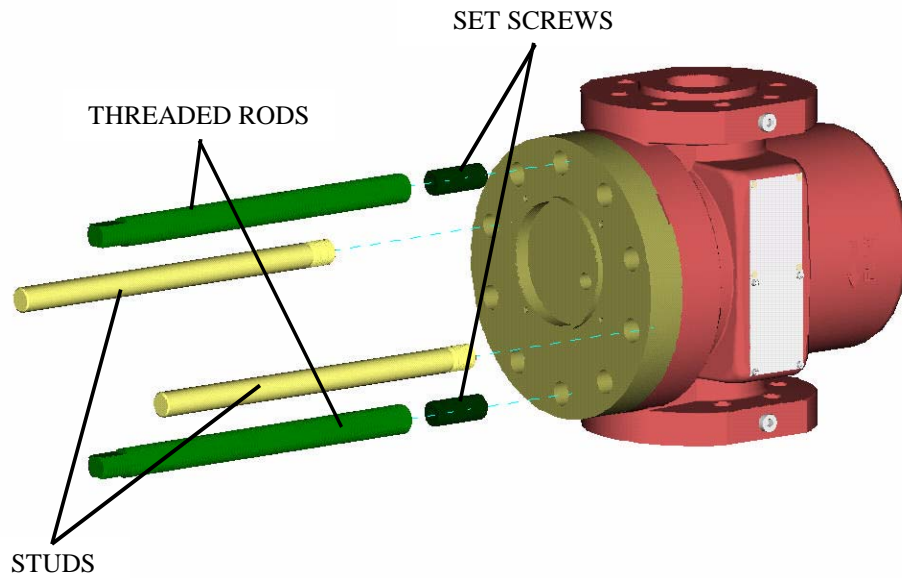

Figure 4. Removal/Installation Equipment.
6. Screw in the two 740/1480 Cartridge Removal/Installation Studs as shown in Figure 4. Do not tighten more than *hand* tight.
7. Using a 3/8" Allen, screw in the two 3/4 -10 set screws as shown in Figure 4.
8. Screw in the 7/8-9 threaded rods as shown in Figure 4.